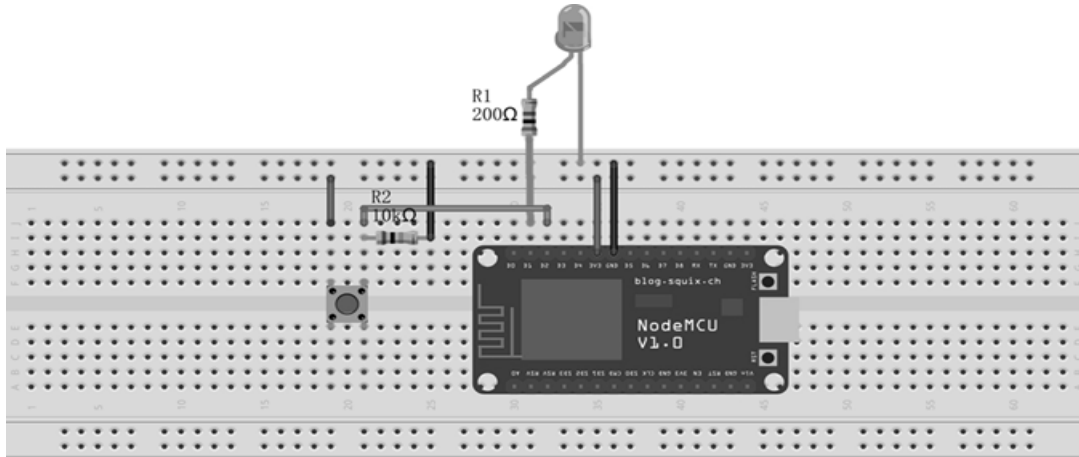

Figure 2.3: Circuit connection of NodeMCU to LED.
1. Interface LED to NodeMCU as per circuit diagram shown in fig. 2.3.